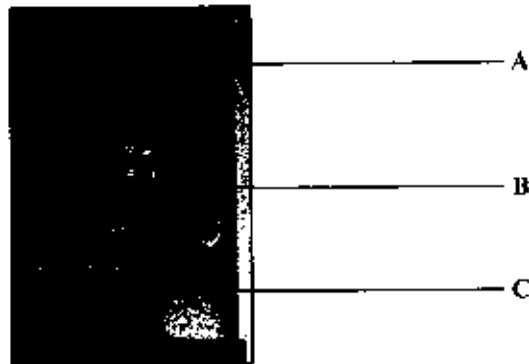

Fig. 5-11. Power Switch, Power Cord and Foot Switch Cord
**A. Power Switch** (Figure 5-11)